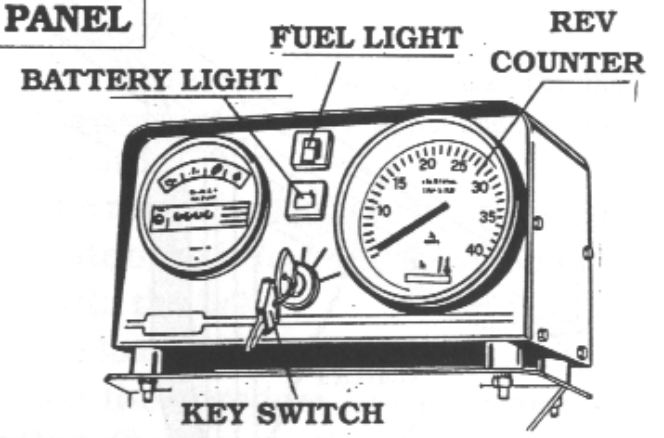

fig. 8
- a) Check that the machine is ready to operate and turn the start key (Fig.8) for diesel engines.